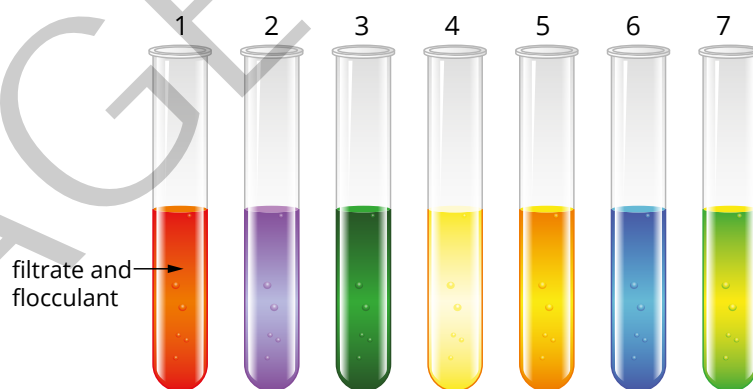

FIGURE 4.4.13
- 3 Add five drops of your first test flocculant to the first test-tube, add five drops of the second to the second test-tube, and so on, as shown in Figure 4.4.13. Record your observation on each test-tube in a table.